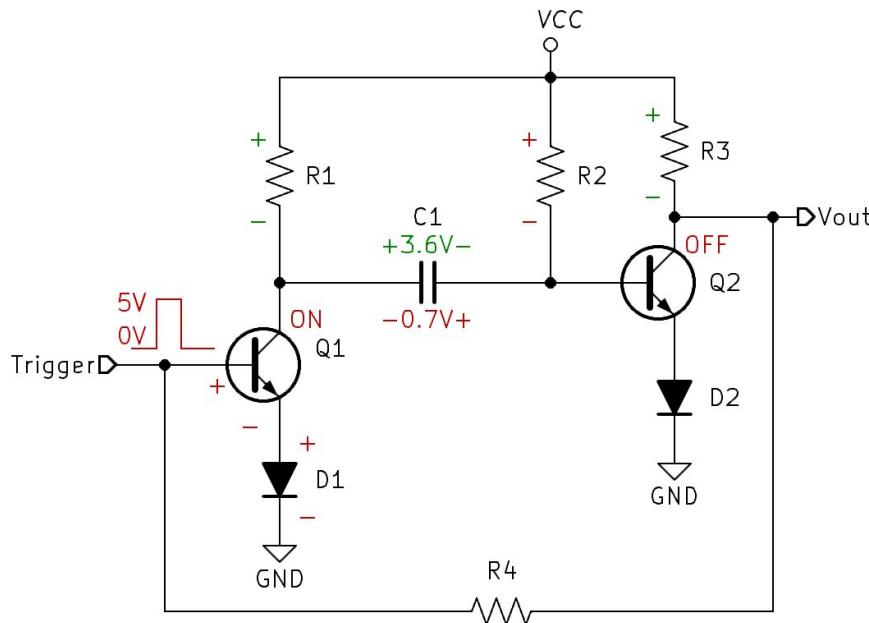

Figure 10.6: Bipolar Junction Transistor Monostable Multivibrator Un-Stable State
- Observe Figure 10.6. As Q1 is biased on from the Trigger signal, Q2 initially will see -3.6V at its base which will turn Q2 off. C1 will begin to discharge the -3.6V through the path of R2, Q1, and D1. Once discharged Q2 will begin to charge and once it reaches 0.7V, the base of Q2 will now have 1.4V ($V_{C1} + V_{D1}$) this will turn on Q2 which will then force Q1 back off returning the circuit to return to its stable state.